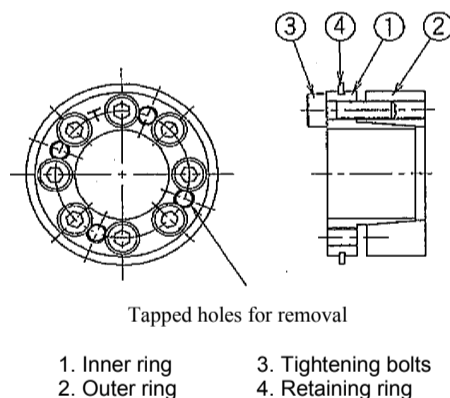

Fig. 1: Configuration
3. If the POWER-LOCK still locks even after loosening bolts, tighten bolts into the tapped holes for removal. (see Fig.1)